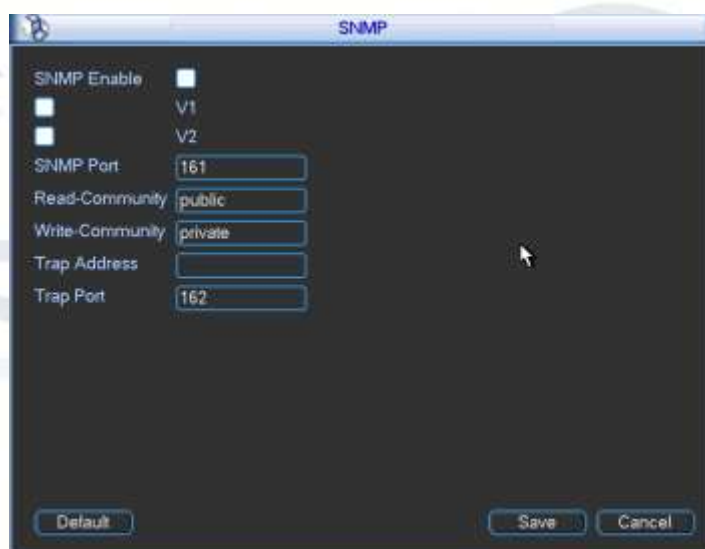

Figure 4-51
SNMP is an abbreviation of **Simple Network Management Protocol**. It provides the basic network management frame for the network management system. The SNMP is widely used in many environments. It is used in many network devices, software and systems. You can setup the following interface. See Figure 4-51.
1. In Figure 4-51, check the box to enable the SNMP function. Input the IP address of the PC that is running the software in the Trap address. You can select the default setup for the rest items that need to be filled in.